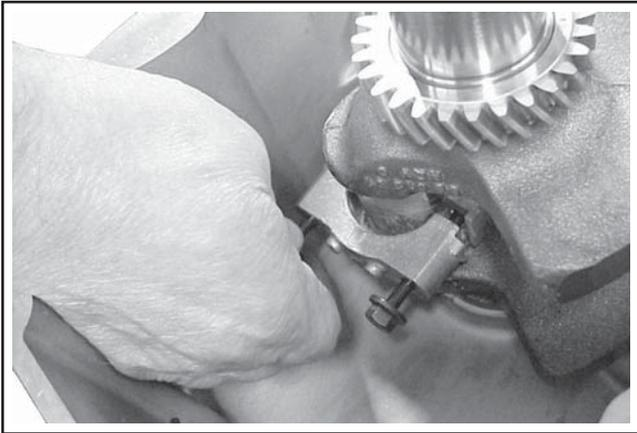

Figure 11-8. Attaching #1 Rod Cap.
5. Guide the lower end of connecting rod and rotate the crankshaft to join the two. Install the rod cap to the connecting rod using the two hex flange screws and torque in increments to **11.3 N·m (100 in. lb.)**. See Figures 11-8 and 11-9.